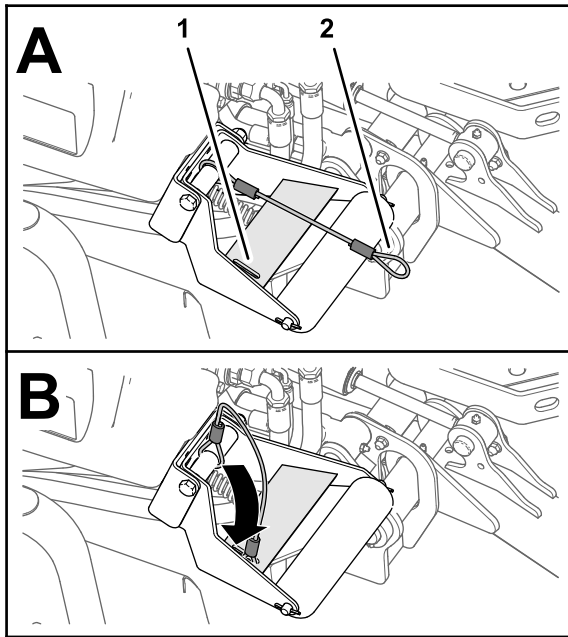

Figure 66
- With the cutting units lowered, slip the loop of the lanyard into the slot in the reinforcement plate of the roller support (Figure 66).